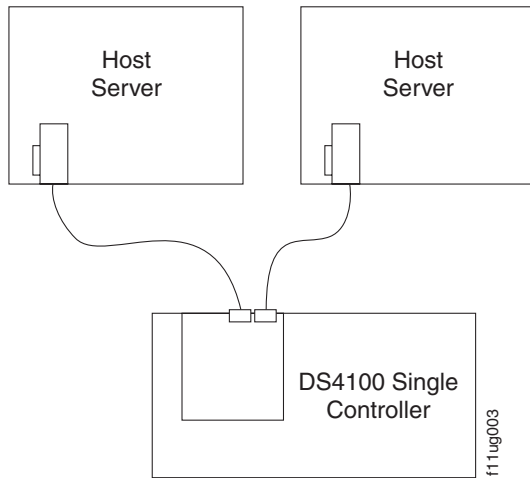

Figure 30. Example of a dual server configuration with one adapter on each server (single-controller storage subsystem)
- Dual server configuration with one adapter on each server, as shown in Figure 30 on page 44